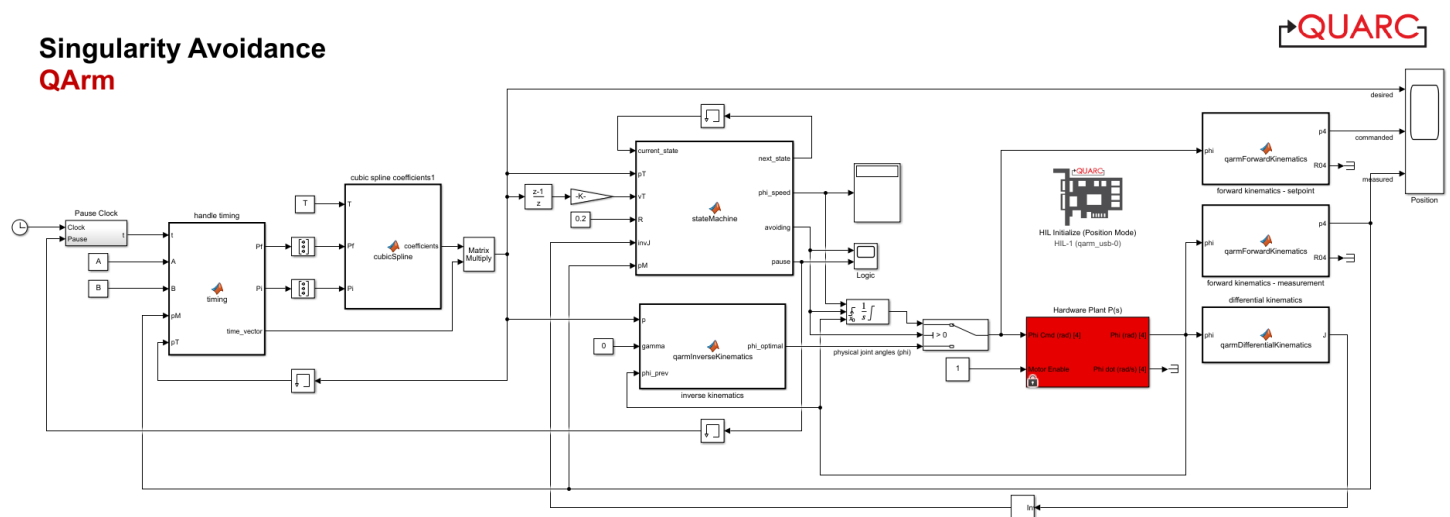

Figure 1 - Simulink model that implements a singularity avoidance algorithm using a finite state machine
1. Open the Simulink model SingularityAvoidance.slx (Figure 1).